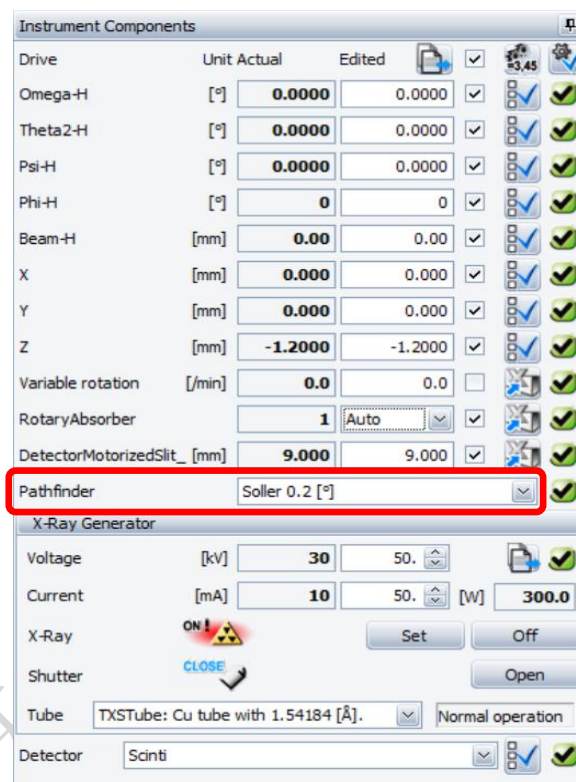

图 6-18 GIXRD 光路设置
6.9.1.2 光路设置: Voltage/Current KV/mA (50/50), Z-axis = -1.2, Omega-H = 0, Theta2-H = 0, Psi = 0, Phi = 0, Beam-H = 0, X = 0, Y = 0, Rotary Absorber = Auto, DetectorMotor = 9, Pathfinder = Soller 0.2°, Detector = Scintillation (图 6-18);